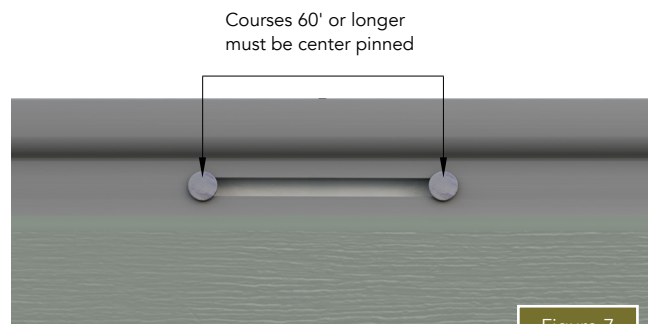

Figure 7
- Courses of siding measuring 60' or longer must be pinned at the center of the course. Pin the course by placing fasteners at both edges of a single nailing slot leaving  $\frac{1}{32}$ " gap to ensure that the course will expand and contract in both directions (Figure 7).